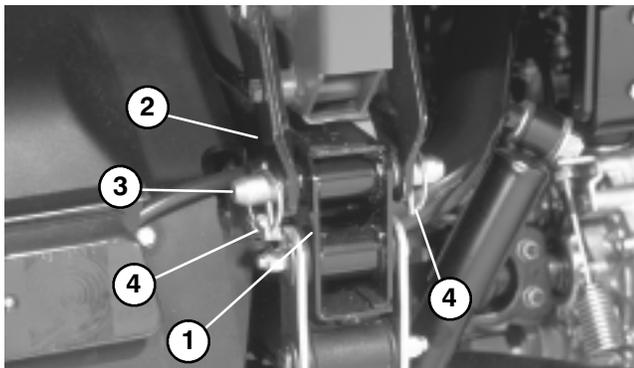

Figure 6
5. Position Topdresser onto vehicle frame, aligning holes in rear mounting brackets with holes in each side of frame (Fig. 6).
6. Secure each rear mounting bracket to vehicle frame with a clevis pin and (2) lynch pins (Fig. 6).